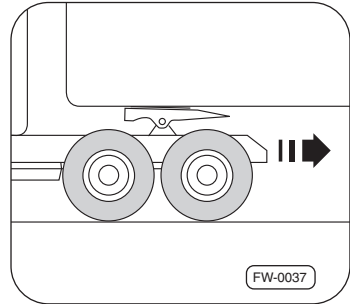

Fig. 13 · Coupling the fifth wheel tractor with the semi-trailer
8. **Slowly reverse** the tractor until the fifth wheel coupling locks. The lock will close automatically Fig. 13.